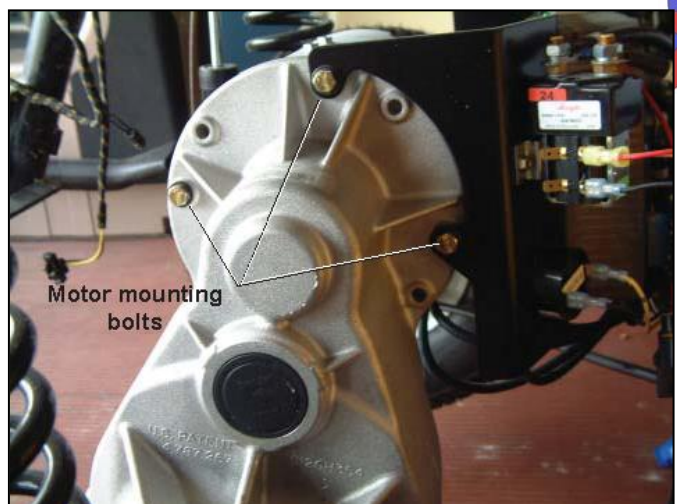

Figure 10-2
4. See Figure 10-2. Loosen and remove the three 1/4" bolts, lock washers and flat washers securing motor to rear axle/differential housing.